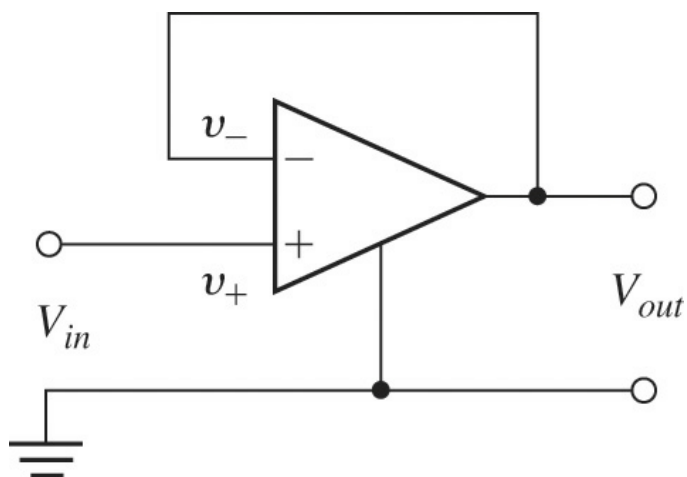

Fig. 2.51 Circuit for Problem 2.14
14. Show that the op amp connection shown in Fig. 2.51 results in $V_o = V_{in}$ if the op amp is ideal. Give the transfer function if the op amp has the non-ideal transfer function of Problem 2.13.